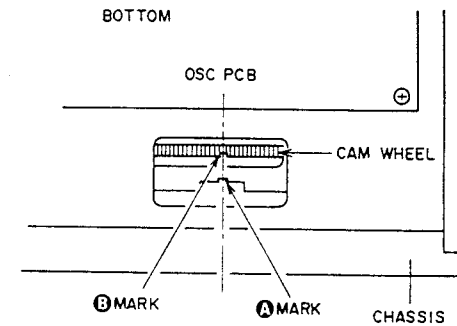

Fig. 4-2
- b. Adjust VR1 slightly so that the center of marker ③ coincides with the center of marker ④ in the STOP mode as shown on Fig. 4-2. (The marker ③ on the CAM WHEEL can be seen clearly by lighting it from the back.)